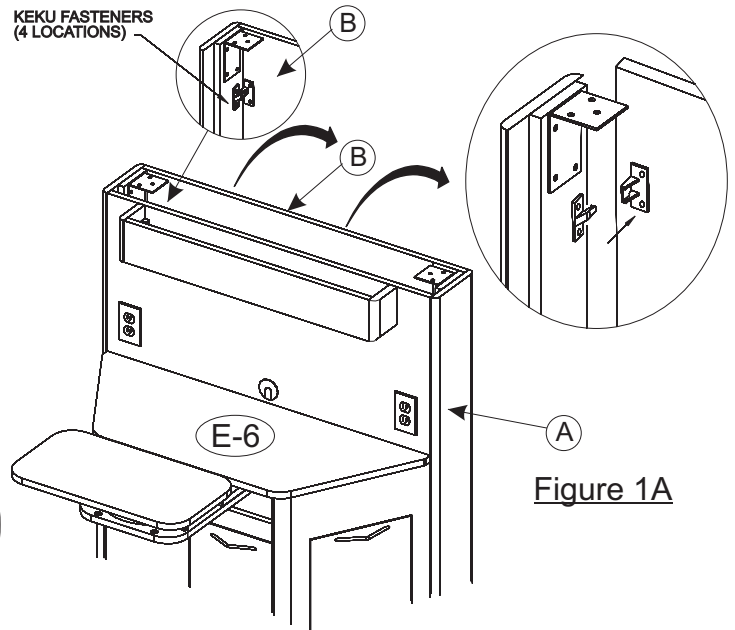

Figure 1A
For E-6 Models: Remove the Back Panel (B) from the Lower Cabinet (A) sides (see Figure 1A) by pulling the top of the Back Panel from the rear of the cabinet to release the upper Keku Latches and continuing pulling back to release the lower Keku Latches (4 locations).